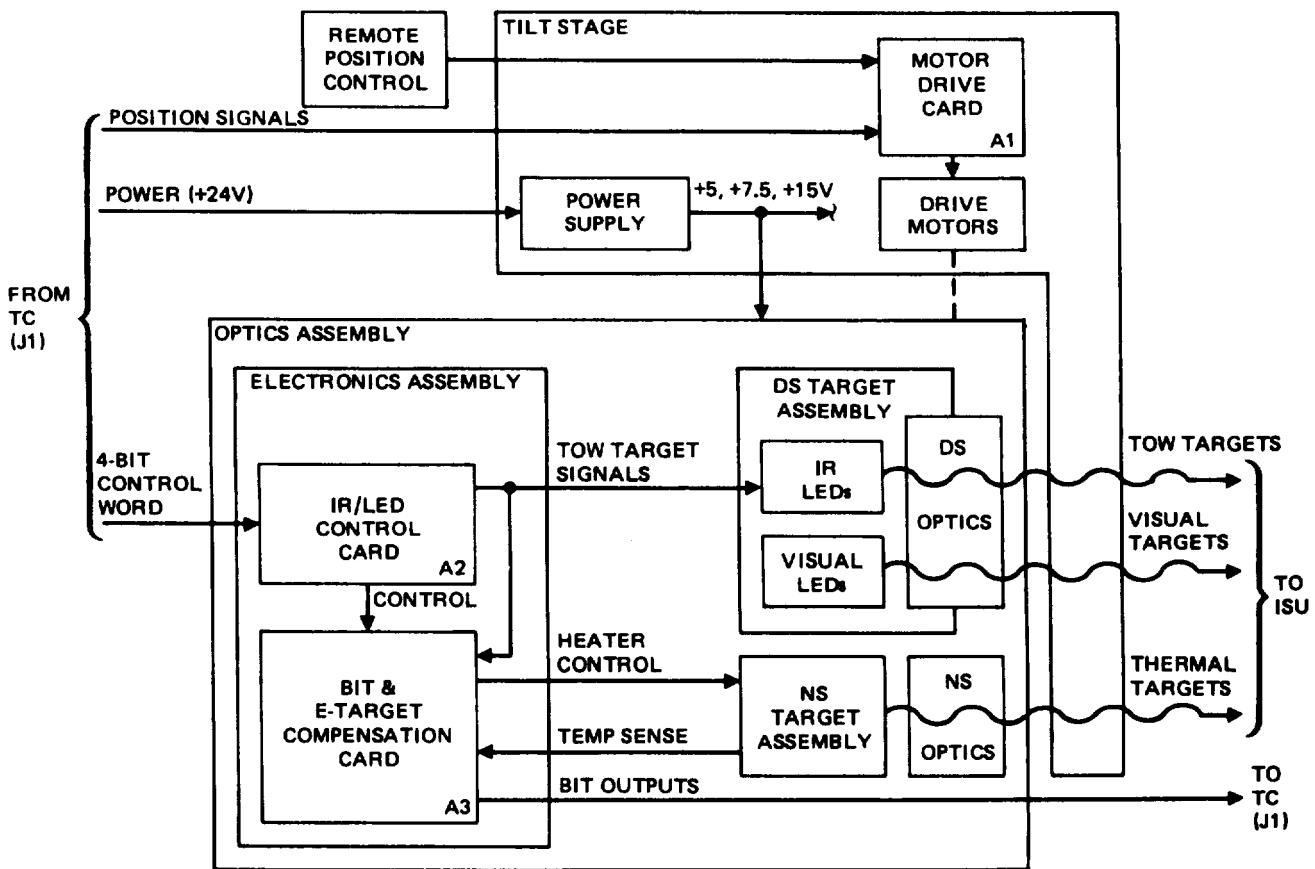

Figure 1-13. D/NSC Block Diagram.
*c. Day/Night Sight Collimator* The D/NSC, which generates visual and IR target images for TSS testing, consists of a tilt stage assembly and an optics assembly. A block diagram of the D/NSC is provided in figure 1-13.